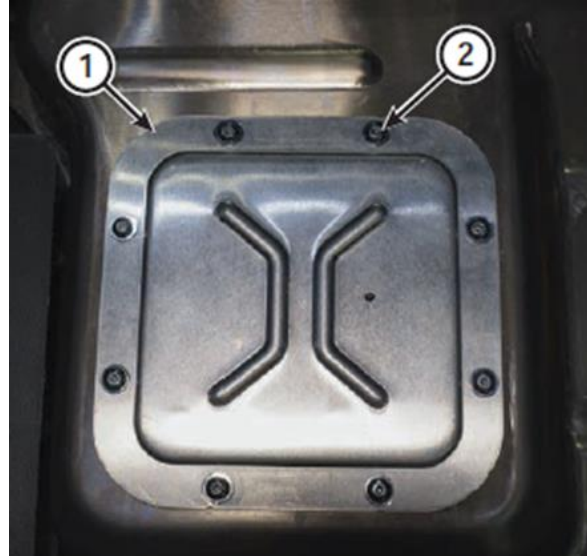

Figure 31 – Test Point Access Cover
33. Remove the Test Point Access Cover (Figure 31).
38. Install the test points access cover (1) to the battery pack and securely tighten the eight M6 Torx screws (2), identified with blue circles (Figure 31).